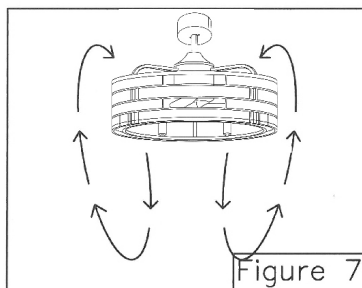

Figure 7
- Warm weather- (Forward) A downward air flow creates a cooling effect as shown in. (Figure 7) This allows you to set your air conditioner on a higher setting without affecting your comfort.